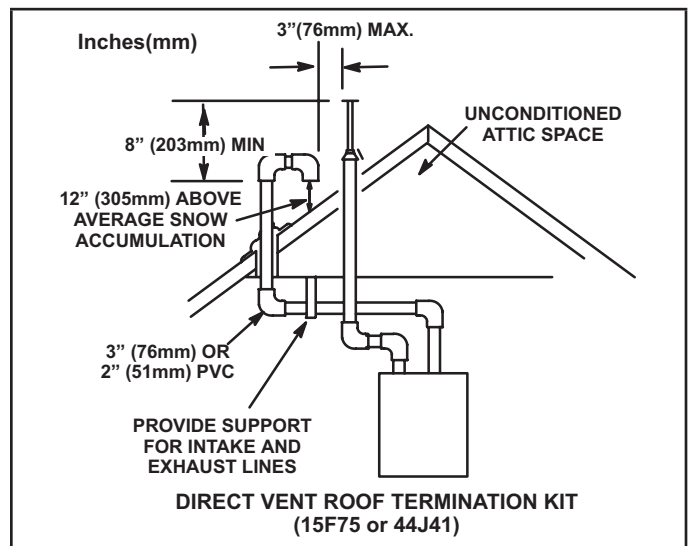

FIGURE 35
- 3 - On roof terminations, the intake piping should terminate straight down using two 90° elbows (FIGURE 35).